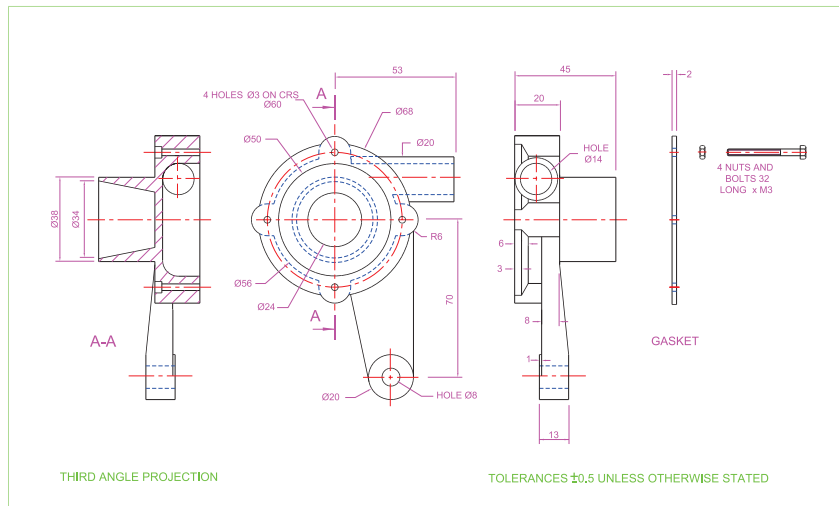

Fig. 21.4 Second example – multileaders. The drawing to which multileaders are to be added
There are a variety of uses for multileaders. The second example shows one such use. The drawing in which multileaders are to be included is shown in Fig. 21.4.
4. In the drawing, in response to prompts at the command line, add multileaders one after the other to the drawing shown in Fig. 21.4, numbering the parts **1** to **4**. See Fig. 21.7.